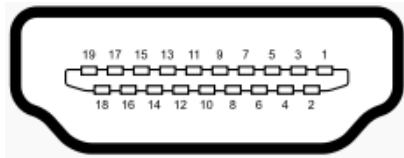
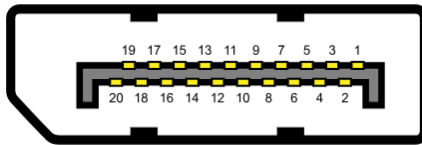

Figure 3-33: HDMI Connector
Figure 3-34: DP Connector
- CN Location:** See **Figure 3-33** and **Figure 3-34**